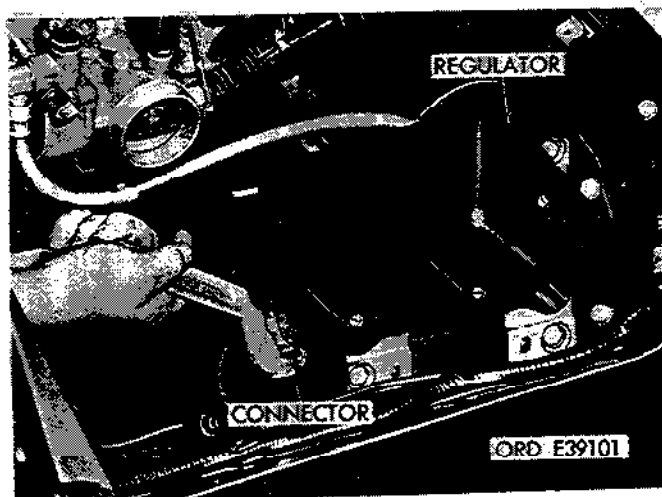

Figure 2-175. Disconnect wiring harness connector.
- (2) Using spanner wrench, disconnect main wiring harness connector at regular and pull plug out of receptacle (fig. 2-175).
main wiring harness connector at regulator receptacle (fig. 2-175) to provide access to generator-to-regulator harness connector.